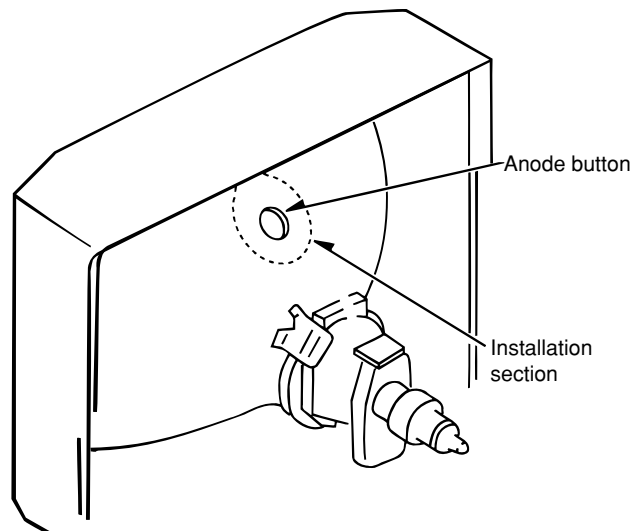

Figure 3-2
- (1) Use a clean cloth moistened slightly with alcohol to clean the installation section. (See Figure 3-2)